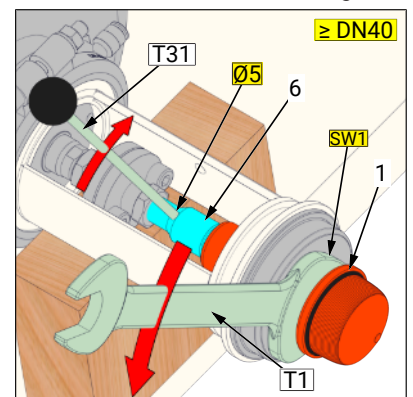

Figure 4
- Fig. 4 Dismounting via spanner flat (SW1) (\geq DN40).
- So that the bore (B1) will be visible, first unscrew the insert (2).
- Unscrew the piston (1) respectively the flow cone (Sk_m) from the spindle (6) with a pin wrench (T10).